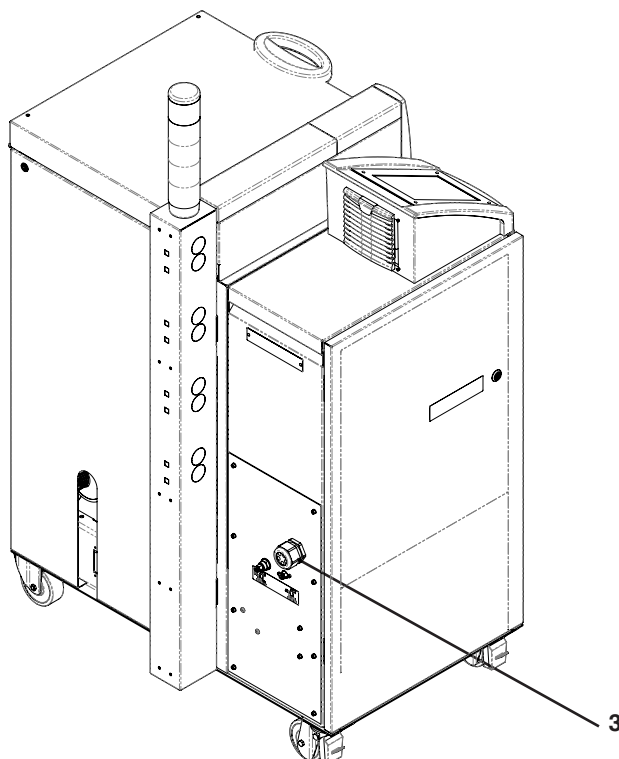

Figure 3-5: Main electrical service
5. See Figure 3-5. Use the supplied key to open the electrical panel on the melter. Refer to “Strain Relief Installation” on page 3-9 for more information.